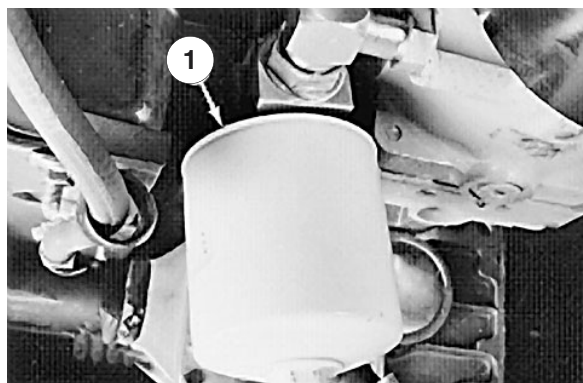

Figure 48
1. Clean the area where the hydraulic oil filter mounts. Remove the filter from the base (Fig. 48) and clean the filter mounting surface.